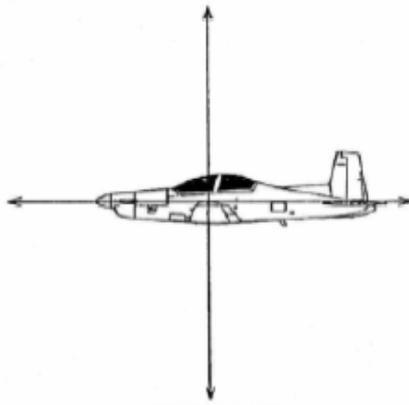

FIG 1.1. - THE FOUR FORCES - THE IDEAL ARRANGEMENT
**1006.** If each of these forces were exactly the same magnitude and acted through one central point in the aircraft no problems would arise. However, they all act at different positions and are of different magnitudes (FIG 1.1.).